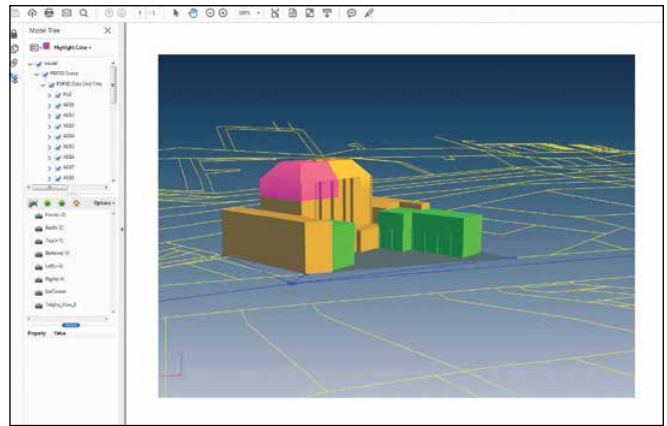

Figure 6. Interactive 3D PDF of a Unit Title Development integrated into the digital cadastre
- PDF reading software that enables spatial viewing of interactive PDFs. These are easily generated from survey and spatial software. These 'persistent' files are readily viewed and printed from free and readily available readers which also provide surprisingly powerful tools to spatially interact with the data (illustrated in particular by 3D PDFs (<https://helpx.adobe.com/acrobat/using/displaying-3d-models-pdfs.html>) (see Figure 6)).